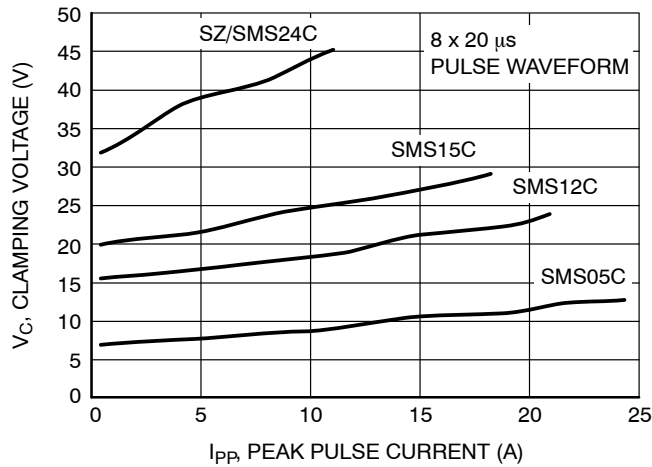

Figure 3. Clamping Voltage vs. Peak Pulse Current
1. Non-repetitive current pulse per Figure 3.